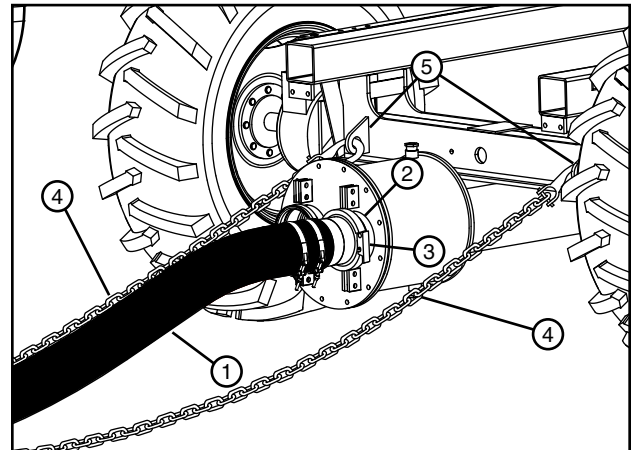

Figure 55-2 1. Second Hose 4. Chain
- (a) Connect the inlet end of second hose to the center inlet with circle lock ring. Attach chains from the soft hose/poly hose connection to the anchor bracket on each side of cart. See Figure 55-2.